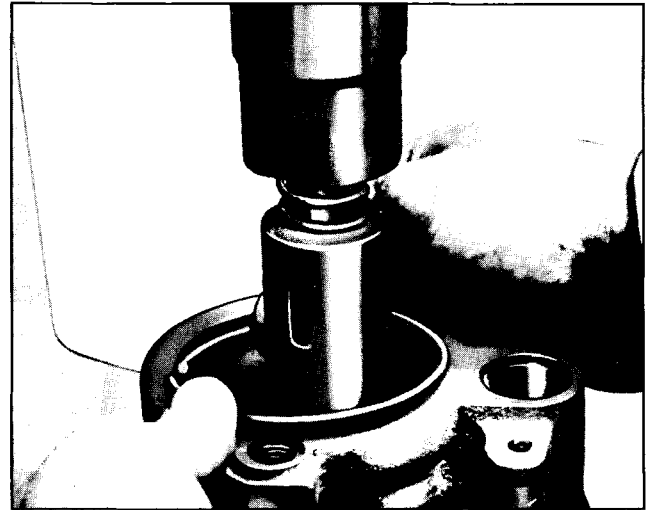

Fig. 9-125 Installing End Plate
11. Install end plate retaining ring while pump is in arbor press. Be sure it is completely seated in the groove of the housing (Fig. 9-125).